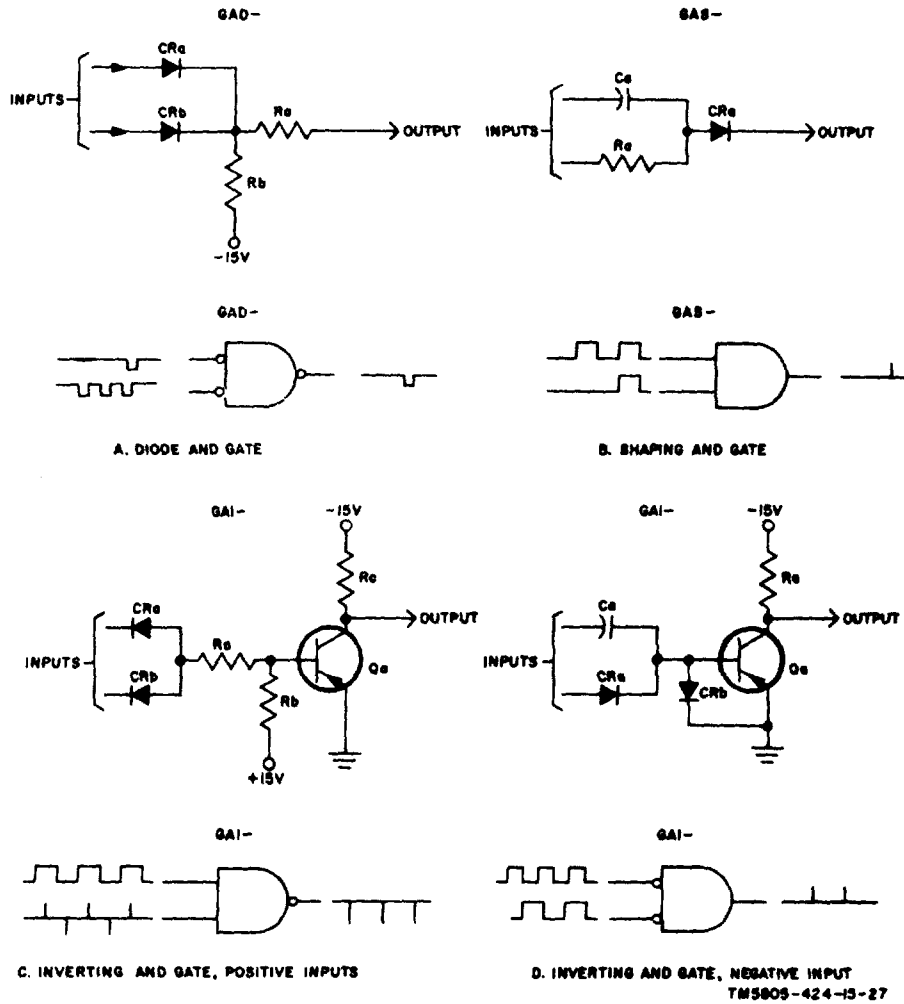

Figure 5-5. AND gate stages, schematic diagram and logic symbol.
- (1) The GAD-type AND gate (A, fig. 5-5) requires the two low-level inputs which are blocked by diodes CRa and CRb, in order to provide a low-level output (no current flows through resistor
- (2) In the GAS-type AND gate (B, fig. 5-5), capacitor Ca differentiates its input square wave, and diode CRa passes only the positive spike if the input to resistor Ra is also a high level. If the input to resistor Ra is a low level, capacitor Ca can never charge above ground and no output is available.
- (3) Two GAI-types of AND gate are used in the equipment.
- (a) The type shown in C, figure 5-5, requires two high-level inputs (ground) to hold transistor Qa cut off, providing a low-level (-15 volts) output. A low level applied to either input is passed by its appropriate diode (CRa or CRb) to the base of transistor Qa, turning Qa on and providing a high-level (ground) output. Resistors Ra and Rb provide initial bias for the transistors. Resistor Rc
(b) The GAI-type AND gate shown in D, figure 5-5, requires two low-level (-15 volts) inputs to provide a high-level output. A low-level applied to diode  $CR_a$  is blocked (acting as an open circuit), so input capacitor  $C_a$  controls circuit operation, turning transistor  $Q_a$  on when the input is negative (providing a high-level [ground] output), and turning it off when the input is positive (providing a low-level [-15 volts] output). If the input to diode  $CR_a$  is a high level, the high level is passed by the diode to the base of transistor  $Q_a$ , maintaining it at cut off,